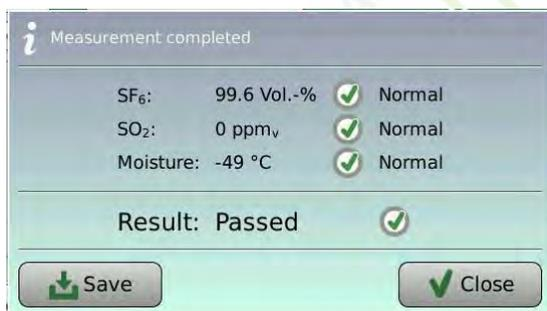

Fig. 6.06
By choosing the second option (see Fig. 6.04) you will have to connect a WIKA recovery bag model GA45 to the left quick connect outlet ③ with the matching hose of the recovery bag. In this case the gas directly flows to the connected bag with slight overpressure. Afterwards measurement can be saved (see Fig. 6.06).